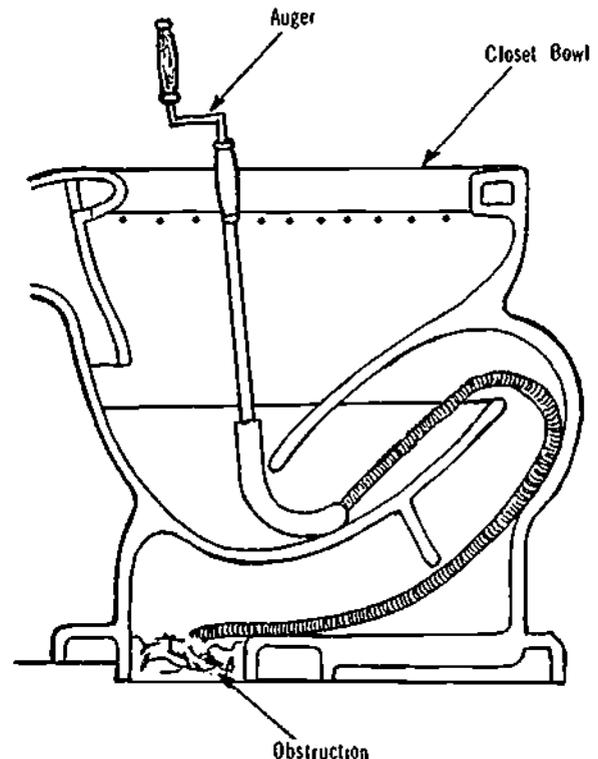

Figure 23-16. Use of Closet Auger
47. Do not use a force cup to clear blockage in a water-closet bowl when you suspect that a large or irregularly shaped object is the cause of the stoppage. A closet auger may be used if the obstruction cannot be forced through the trap with the force cup. Use the closet auger as in Figure 23-16.
48. The closet auger is a cane-shaped tube with a coiled-spring "snake" inside. Its handle rotates the coiled hook on the end of the snake. To put the closet auger into the trap, first draw the coiled spring all the way up into the cane-like curve of the auger. Hook the cane end, with its projecting hook, into the trap (see Figure 23-16). Begin turning the handle to rotate the coiled spring as it is pushed down into the trap. Continue to rotate the handle until the snake reaches the obstruction, then turn the handle slowly until the obstruction is caught on the coiled hook of the auger.